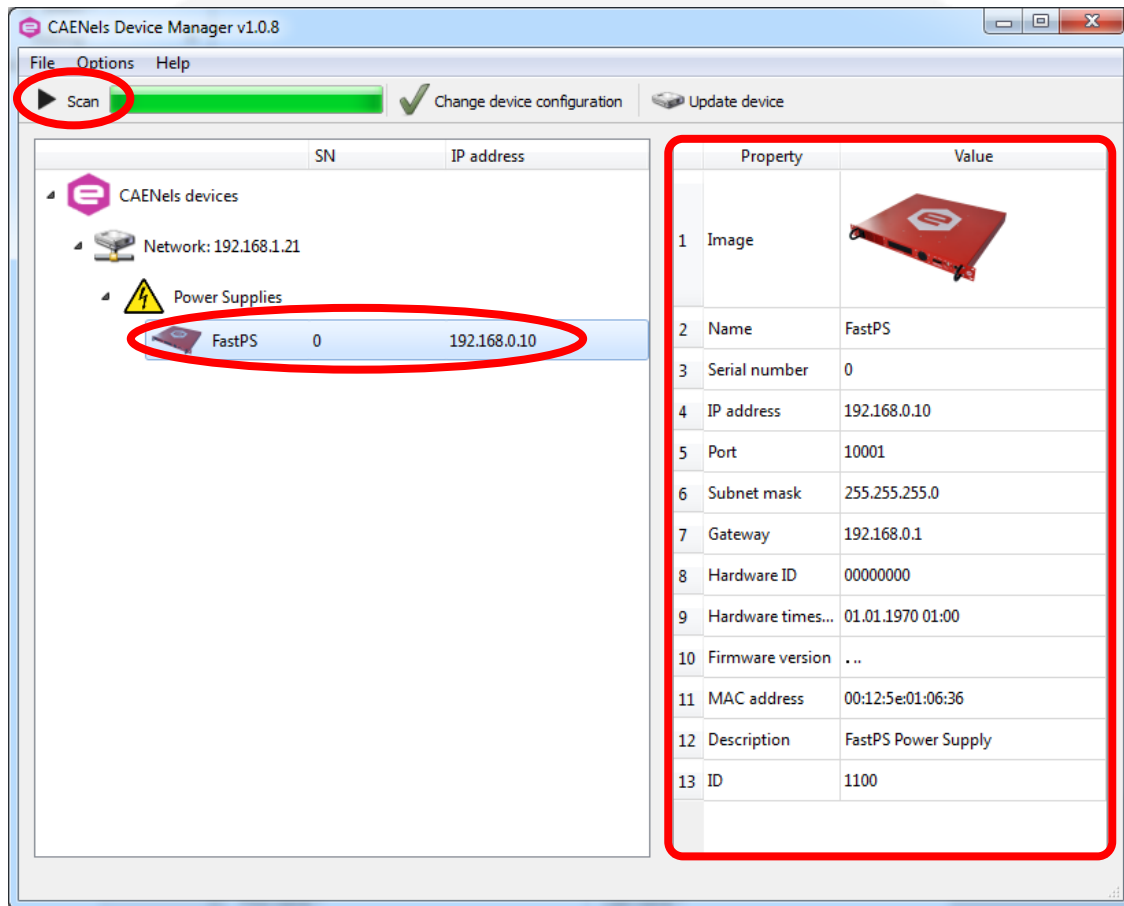

Figure 1: Device Manager - Main interface
- Perform a scan to discover the connected e.g. FAST-PS device(s) by clicking the “Scan” button as indicated in **Figure 1**. If there are multiple available connections it is possible to select the network/networks to be scanned in the “Selected network interfaces” window available under the “Options” menu. All the informations about the selected devices are shown in the right side of the main window.